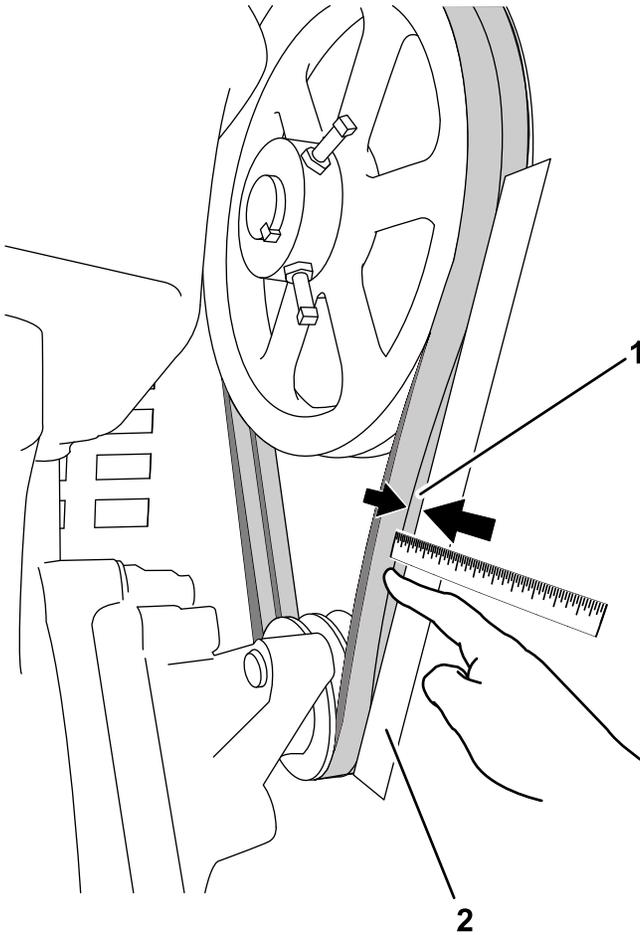

Figure 53
The drive belts should each have 1 cm (13/32 inch) of flex when applying 6.8 kg (15 lb) of pressure, at mid-span (Figure 53).
3. With your finger, push on the belt with 6.8 kg (15 lb) of pressure, midway between the pulleys (Figure 53).
4. Measure the distance from the belt to the straightedge. The distance should be approximately 1 cm (13/32 inch); refer to Figure 53. If the belt tension needs adjustment, refer to Adjusting the Drive-belt Tension (page 35).
2. Lay a straightedge along one of the drive belts, from one pulley to the other (Figure 53).